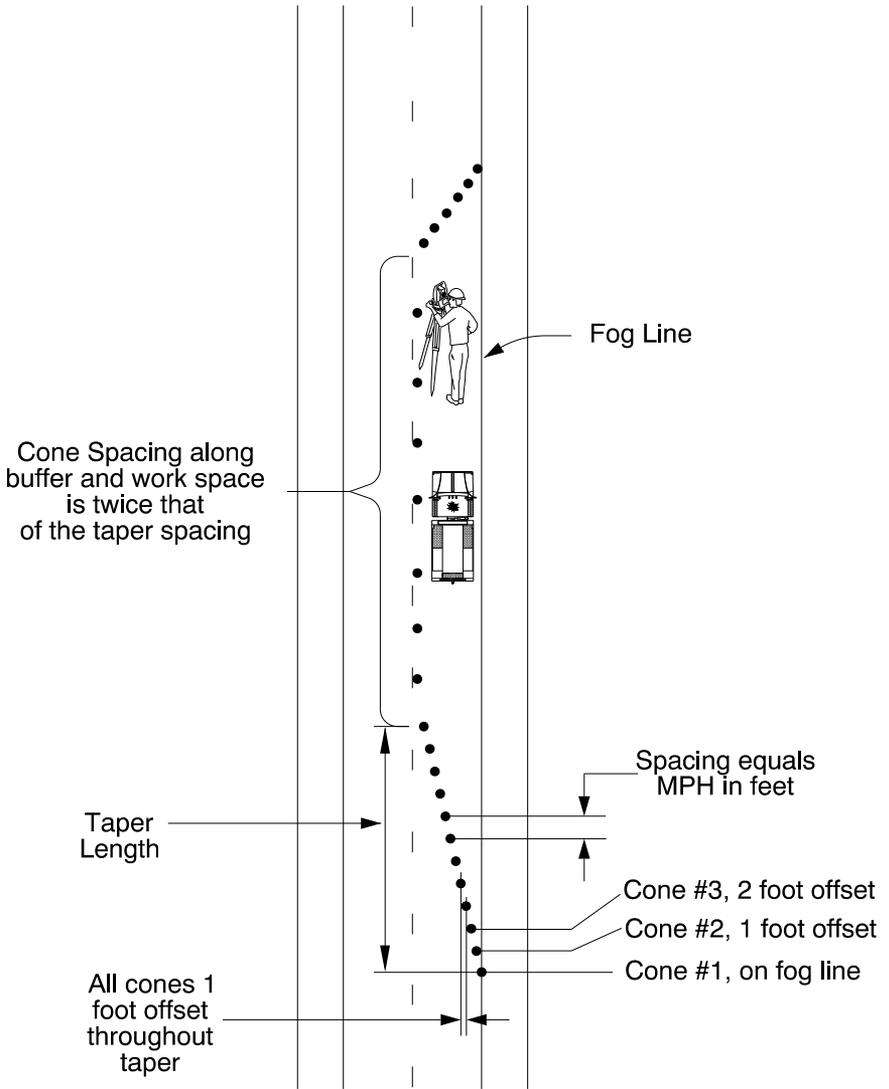

Figure 2-3S – Cone Spacing Example
- 3) **Placing the second cone in the taper.** Start back towards the work space, walking along the edge of travel way a distance equal to the posted speed. Then move over one foot into the road way and place the second cone (See Figure 2-3S).